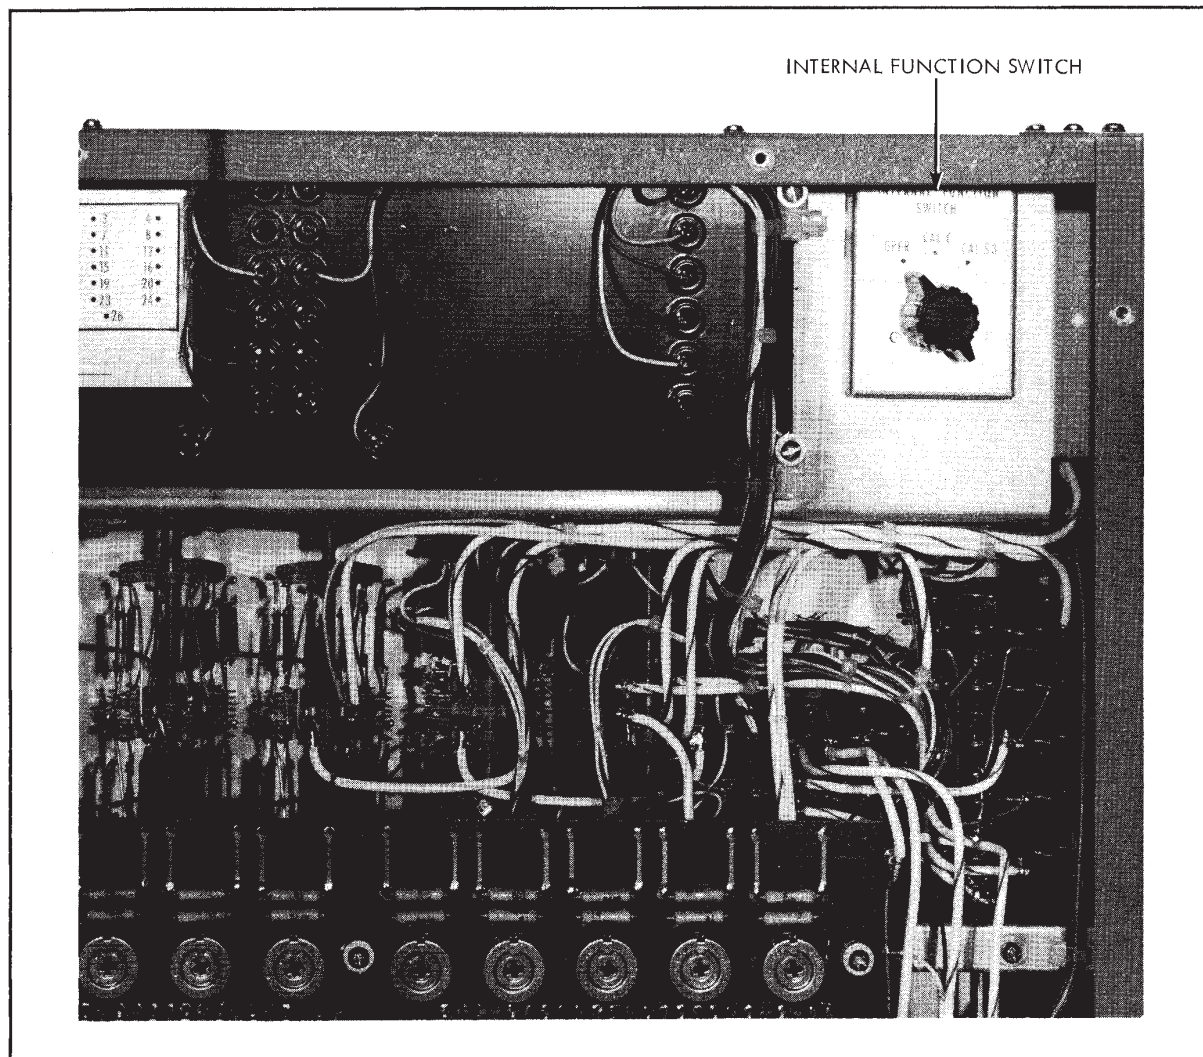

Figure 4-13. INTERNAL FUNCTION SWITCH
- a. Turn the FUNCTION switch to CAL A; turn the internal FUNCTION switch to OPR (Fig. 4-13) and set the readout to .0000000.
The internal FUNCTION switch, which is shown in Figure 4-13, is used only for calibration of the "C" decade and the S-3 shunt. It should not be confused with the FUNCTION switch located on the front panel.